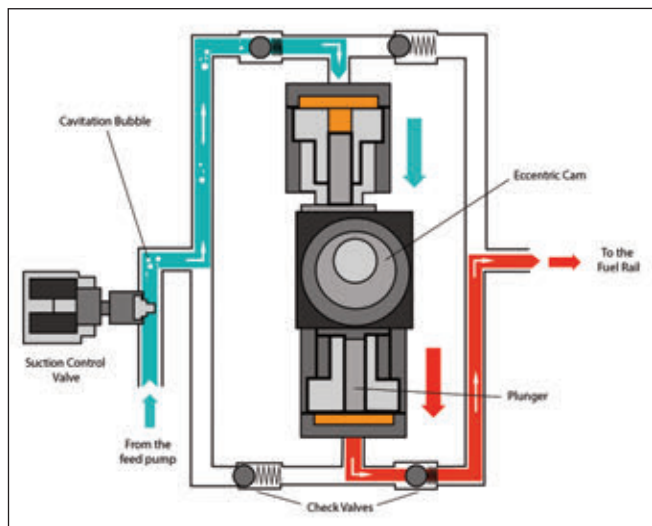

Figure 3 - The actual fuel pressure sometimes exceeded the desired fuel pressure
Clean the hub and the drive flange, removing any dirt and rust before pressing the bearing into place. Install the bearing in the correct way and press onto the drive flange applying the pressure to the inner race (fig 3). Clean the contact surface of the hub and brake disc and refit the disc to the hub, tightening them evenly and sequentially to the manufacturer's tightening torque of 53 Nm. Re-attach the hub carrier to the drive shaft and suspension arm, then install the new hub nut. Do not tighten fully. Refit the brake calliper and tighten the bolts to 175Nm.
3. Locate camshaft locking tool – OE (303-1097) on camshaft. Mark on camshaft sprockets must be aligned with outer edge of camshaft locking tool (Fig. 3).
Remove the under tray and then the turbocharger pipe, secured by two brackets on the sump. In this repair, we avoided removing the sub frame completely. Support the sub frame with two long axle stands. Unbolt and remove the four bolts securing the steering rack in place. Disconnect the exhaust support bracket from the sub frame (fig 3). Remove the two front sub frame bolts
anti clockwise until the timing marks are aligned on the camshaft (fig 1) and on the crankshaft (fig 3).